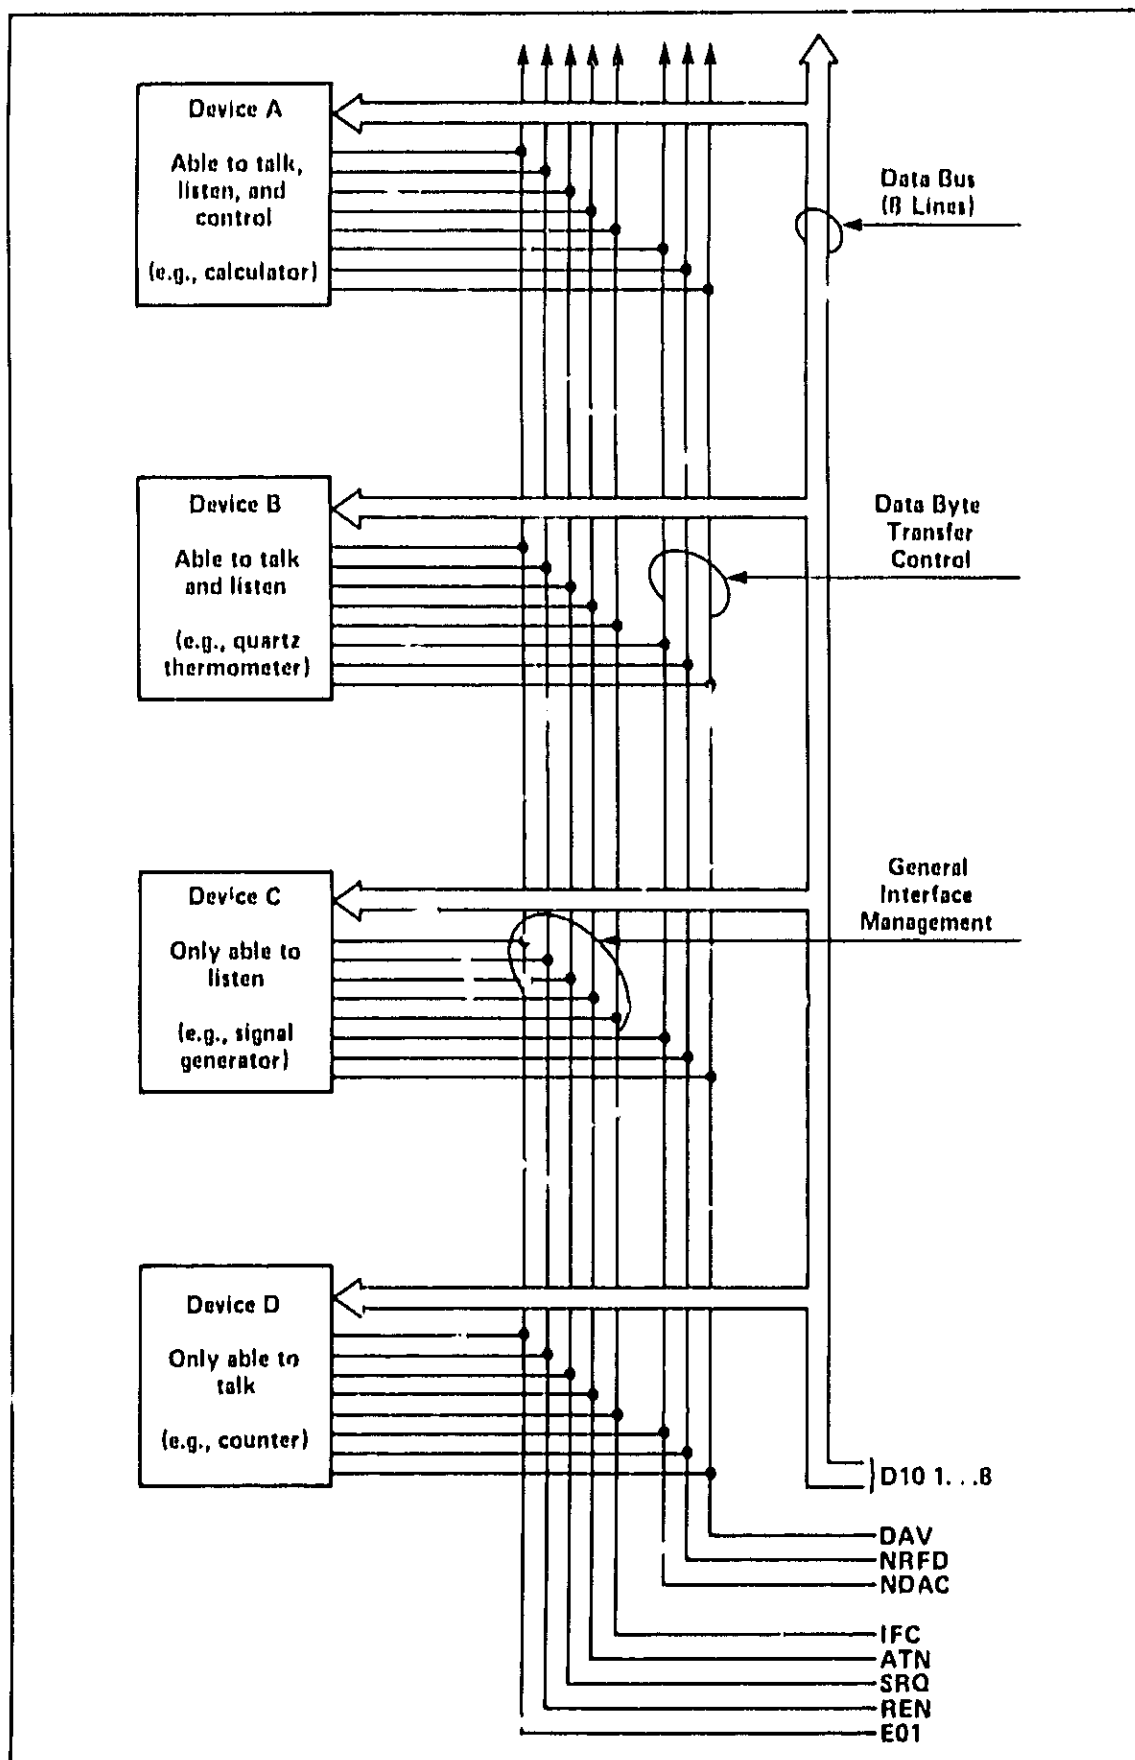

Figure 3-6. Bus Signal Lines
3-60. The data lines (DIO1-DIO8) are reserved for the transfer of data and other messages in a byte-serial, bit-parallel manner. Data and message transfer is asynchronous, coordinated by the three control lines (DAV, NRFD, NDAC). The other five lines are for control of bus activity. The control lines are ATN, IFC, REN, SRQ, EOI. Figure 3-2, item 8 provides an explanation of these signals. Figure 3-6 shows the lines.